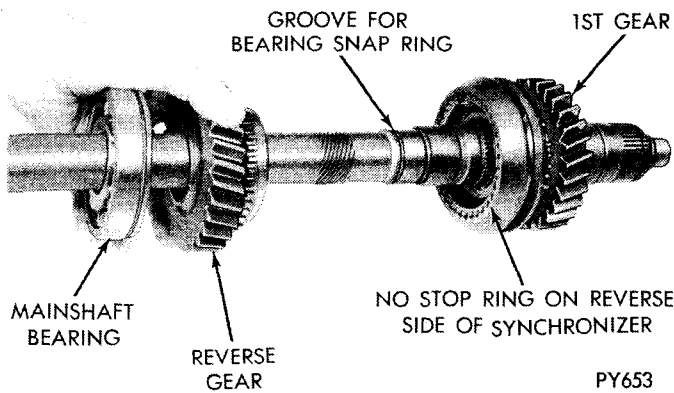

Fig. 21—Removal or Installation—Reverse Gear and Mainshaft Bearing
(7) Remove from press and slip off the end of shaft, the mainshaft bearing and reverse gear (Fig. 21).
(8) Remove from mainshaft the snap ring which
(17) Slide reverse gear and mainshaft bearing in place and take to press, to force bearing on shaft (Fig. 21).